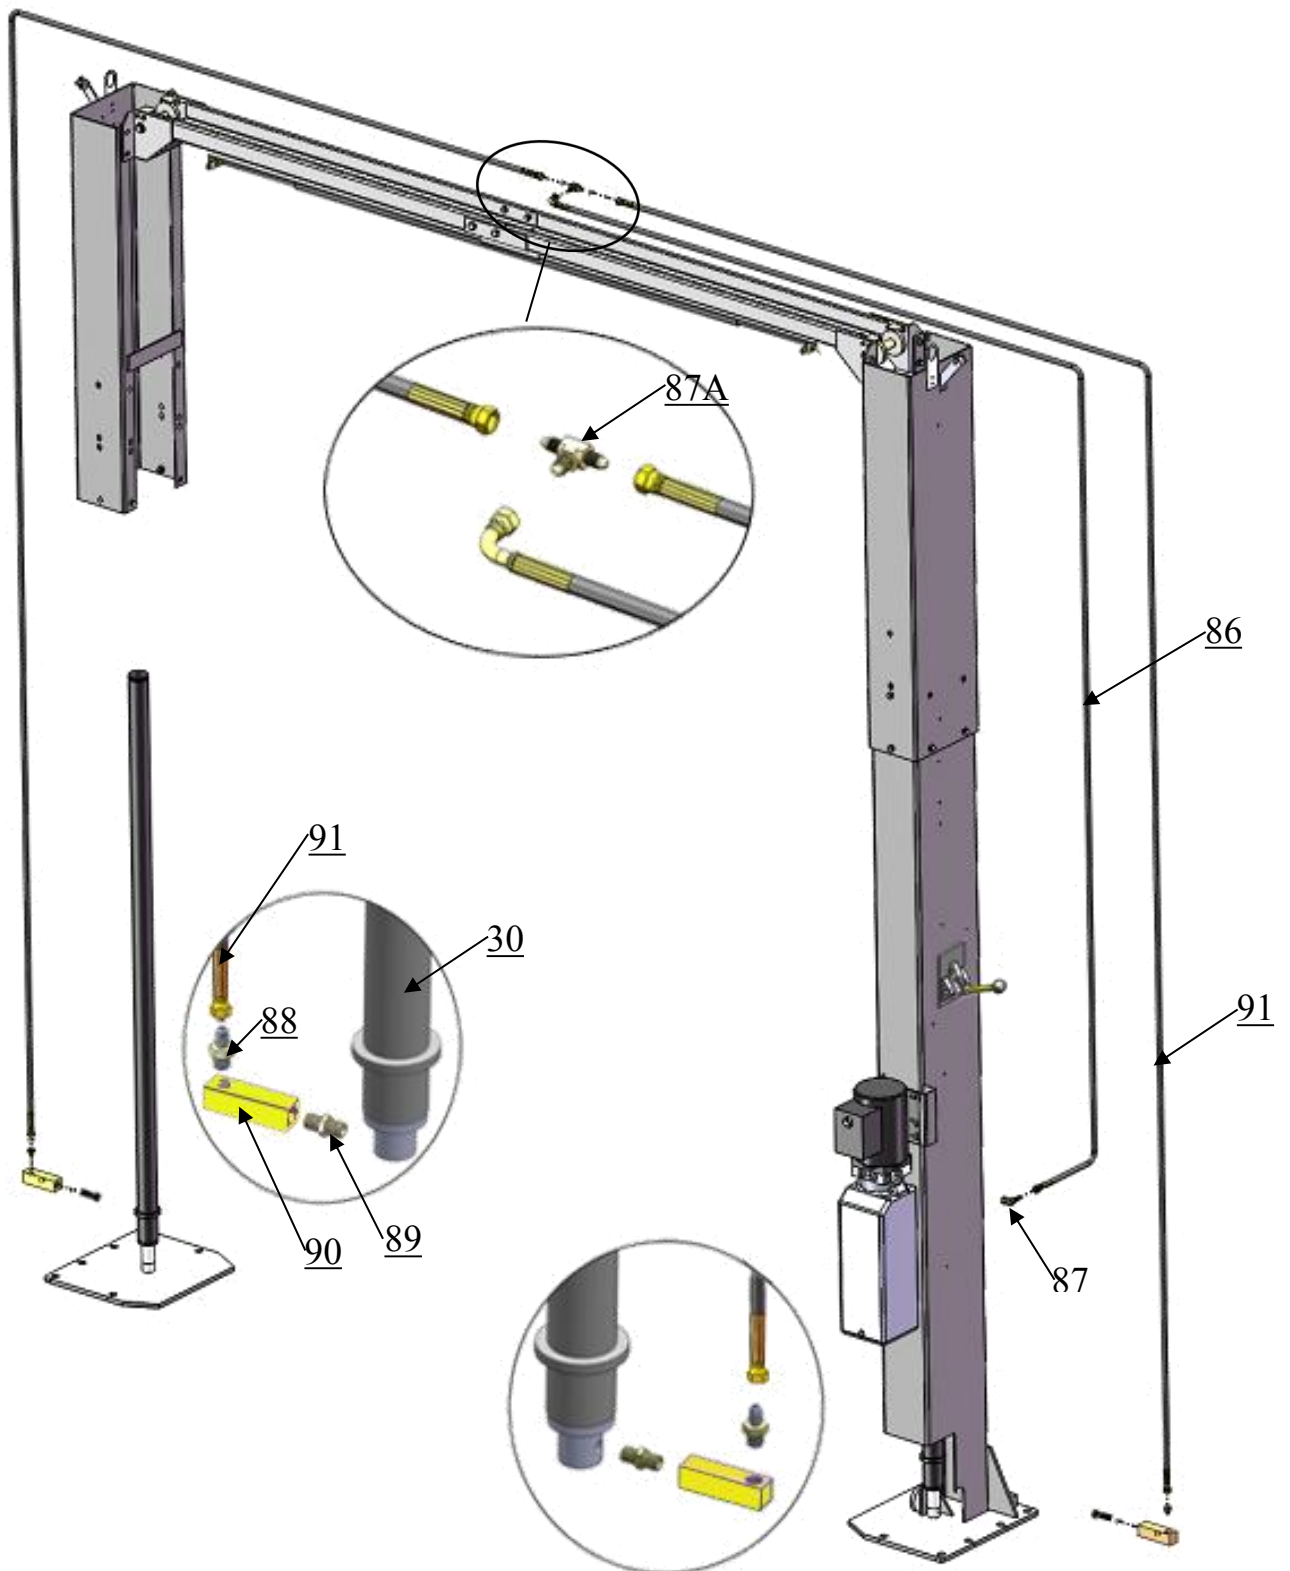

Fig.29
1. Oil-line connection diagram. (See Fig.29)